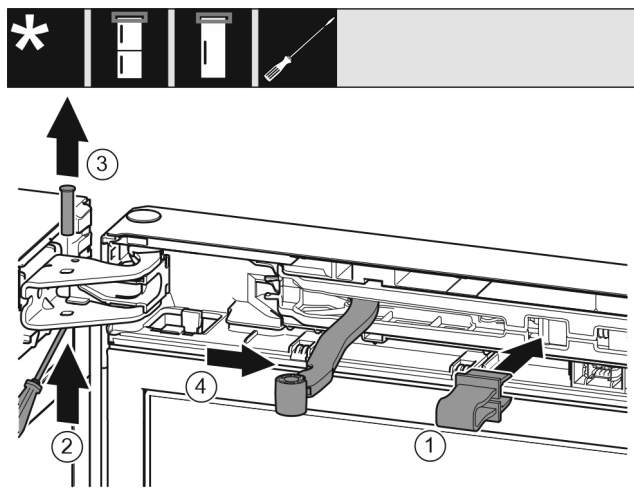

Fig. 8
- Engage the locking device in the opening. *Fig. 8 (1)*
- Unscrew the bolt with a screwdriver. *Fig. 8 (2)*
- Remove the bolt upwards. *Fig. 8 (3)*
- Turn the hinge in the direction of the door. *Fig. 8 (4)*